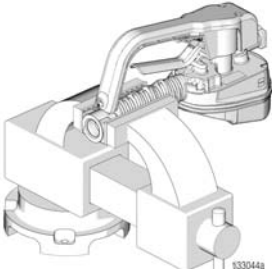

FIG. 1
1. Secure the metered dispense valve in a vise (FIG. 1).